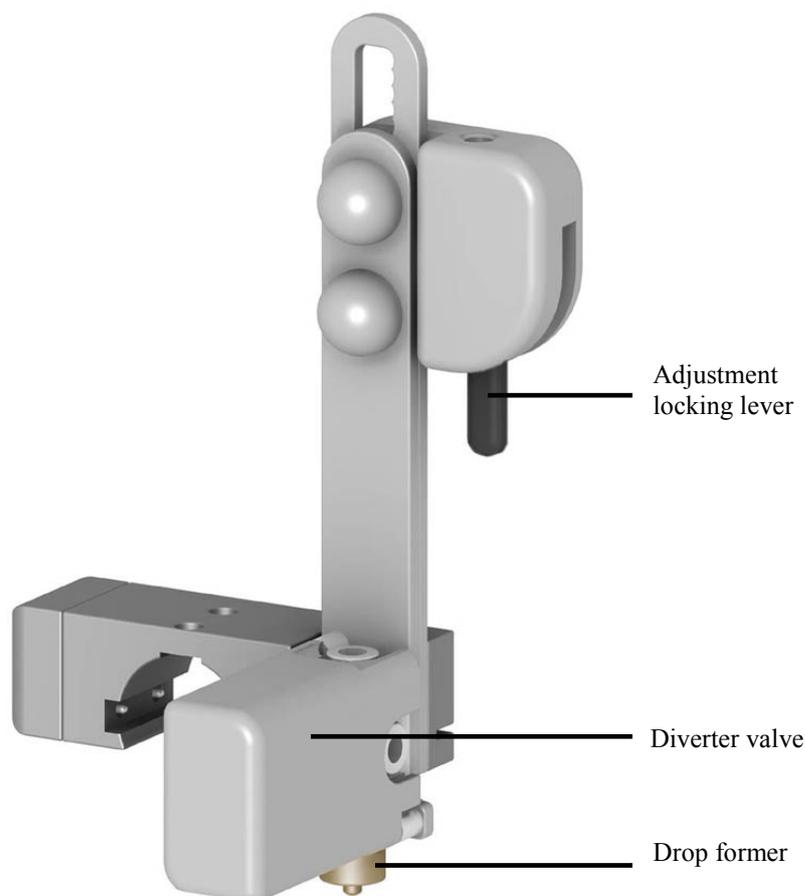

Fig. 12: Diverter valve assembly with drop former
1. Grasp the diverter valve assembly firmly by the vertical stainless steel element while rotating the adjustment locking lever upward. This will unlock the slider assembly, allowing you to move it up and down freely (→ Fig. 12).